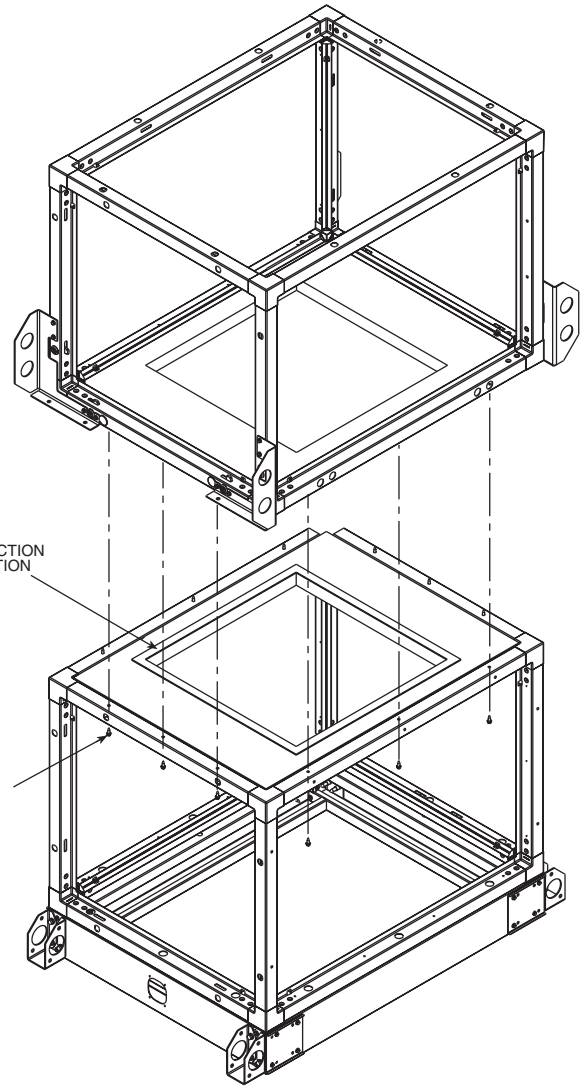

Fig. 28B — Vertical Fan Installation without Baserail
7. Secure the fan and coil sections together using the supplied $\frac{1}{4} \times \frac{3}{4}$ -in. long sheet metal screws. The securing points will be on the bottom of each side and front top rail of the coil section for units without baserail (Fig. 28B). For units with baserail, securing points are located in the side of the baserail (Fig. 28A).